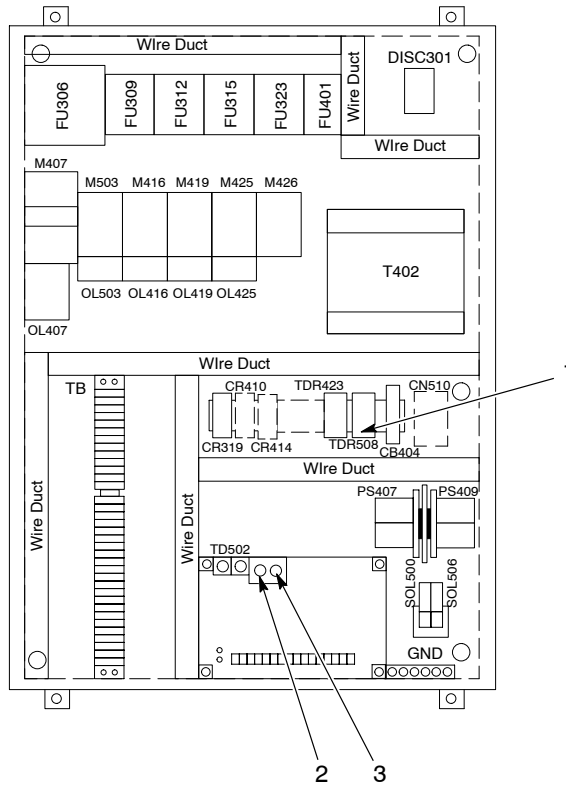

Figure 3-1 Transfer Pump and Pulse-Valve Timers
1. See Figure 3-1. Disconnect the system electrical power and open the system electrical panel.